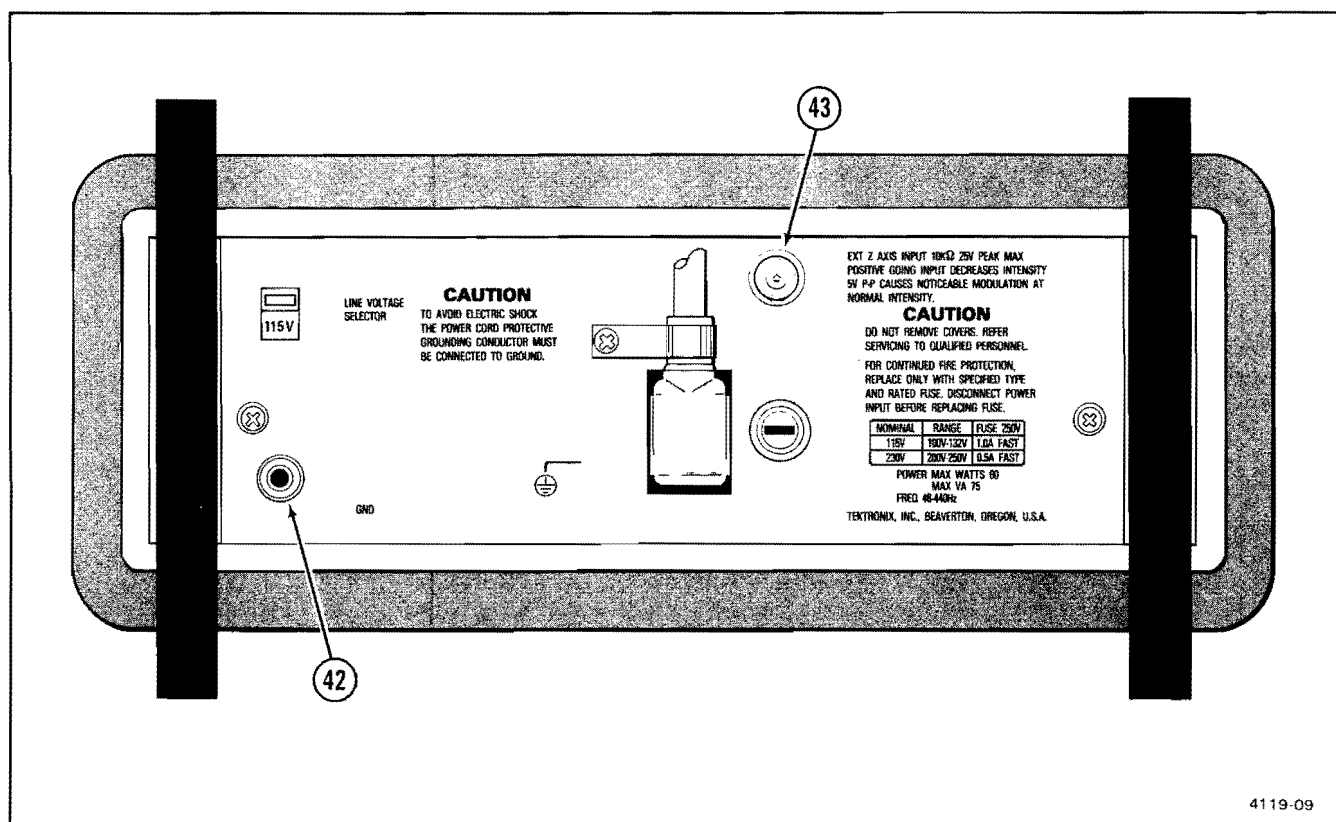

Figure 2-8. Rear-panel connectors.
Refer to Figure 2-8 for location of items 42 and 43.
- (42) **GND Connector**—Provides direct connection to instrument chassis ground.
- (43) **EXT Z AXIS INPUT Connector**—Provides a means of connecting external signals to the Z-Axis amplifier to intensity modulate the crt display. Applied signals do not affect display waveshape. Signals with fast rise time and fall time provide the most abrupt intensity change. Positive-going signals decrease the intensity, and a 5-V p-p signal will produce noticeable modulation. Z-axis signals must be time-related to the display to obtain a stable presentation on the crt.